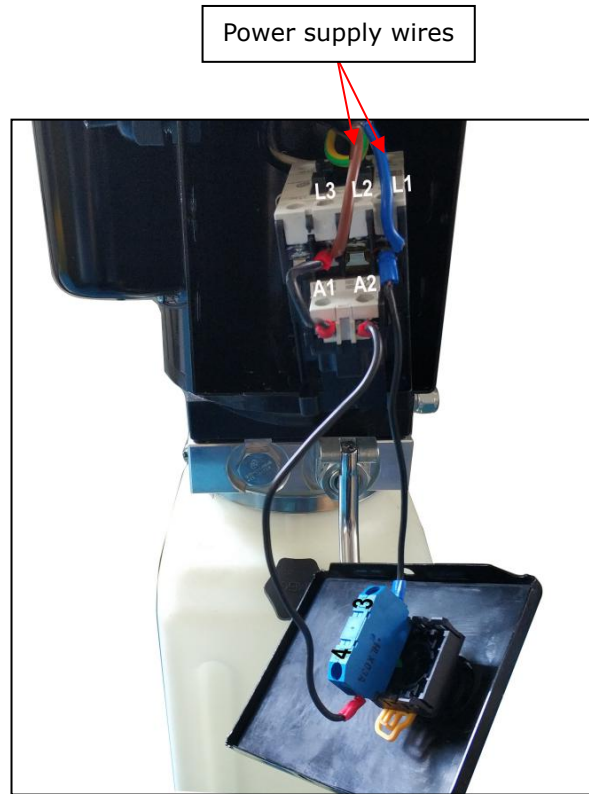

Fig. 27
2. Connection step (See Fig. 27)